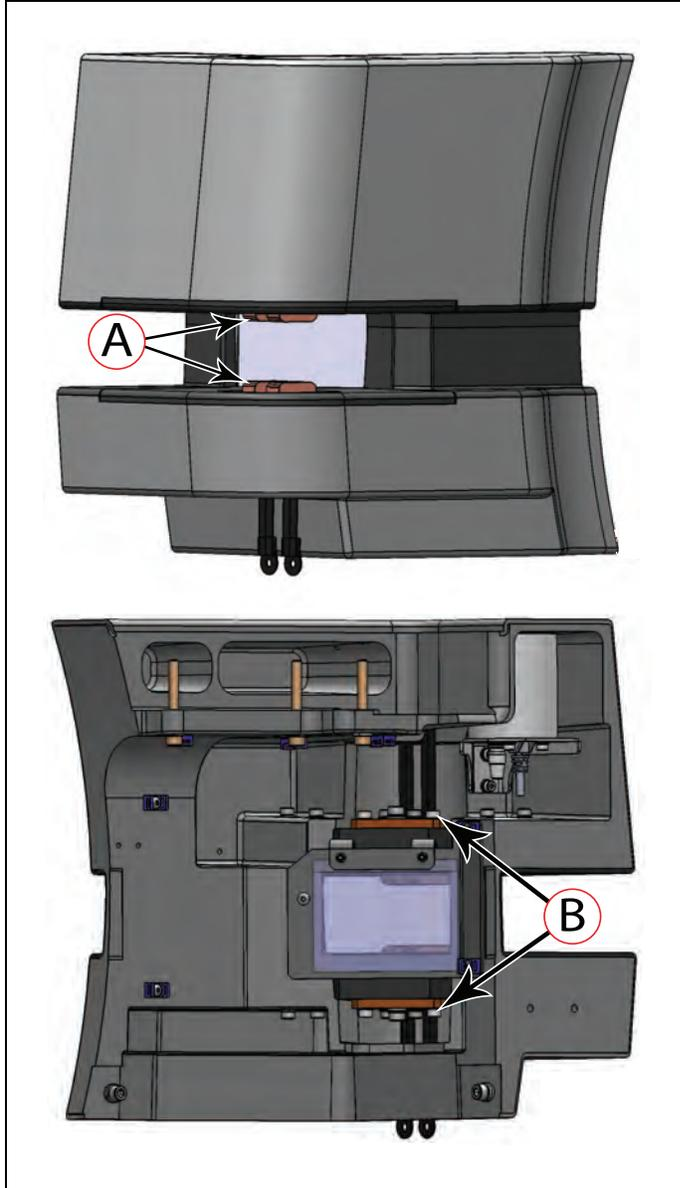

Figure 8-43. (A) Top and Bottom Charging Contacts, and (B) M5 Screws Attaching the Electrical Connections to the Corner Casting
As displayed in Figure 8-43, there are two sets of two charging contacts at the top and the bottom of the charging slot.
1. Unscrew the M5 screws ((B) in Figure 8-43.) attaching the top and the bottom electrical connections to the corner casting. Use the 4 mm wrench to remove these screws.